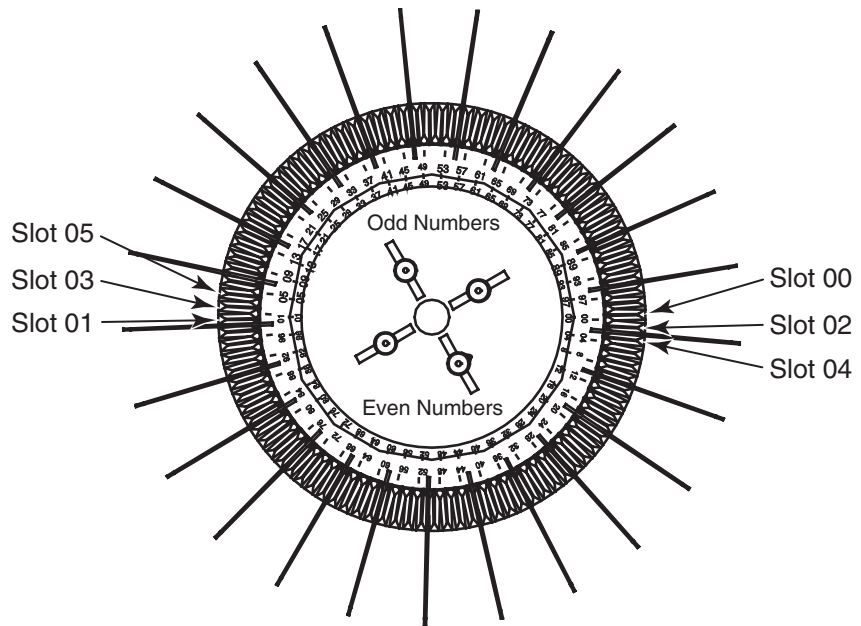

Figure 3-2. Loading the Molded CD Magazine
4. Slide the old CD out of the slot and slide the new CD into the slot (see *Figure 3-2*) with the label to the right. Write the disc number on a note pad.
For example, on the even numbered half of the magazine, slots 00, 04, and 08 are labeled, and the slots in between – 02 and 06 – are not, as illustrated in *Figure 3-2*.